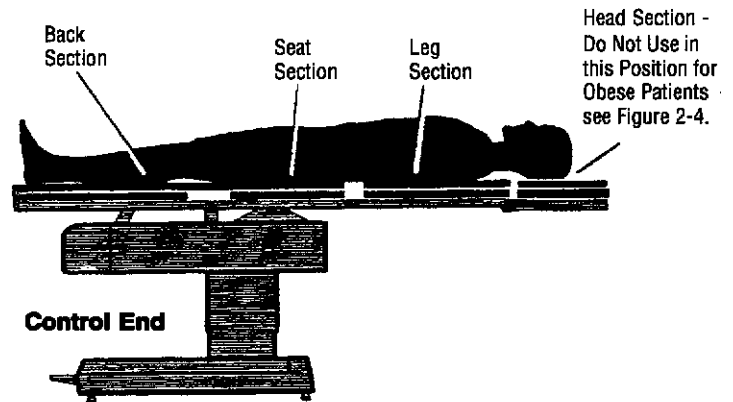

Figure 2-3. Non-Obese Reverse Patient Orientation
- Observe all normal patient orientation guidelines (see Figure 2-3).